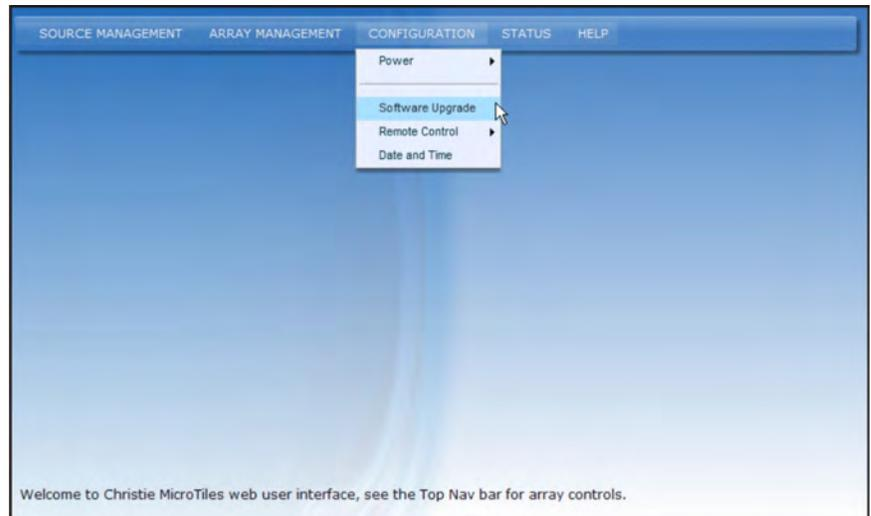

Figure 3-34 Software Upgrade
1. From the webUI, select **Configuration** from the top menu bar and **Software Upgrade** from the drop-down menu that appears (Figure 3-34).